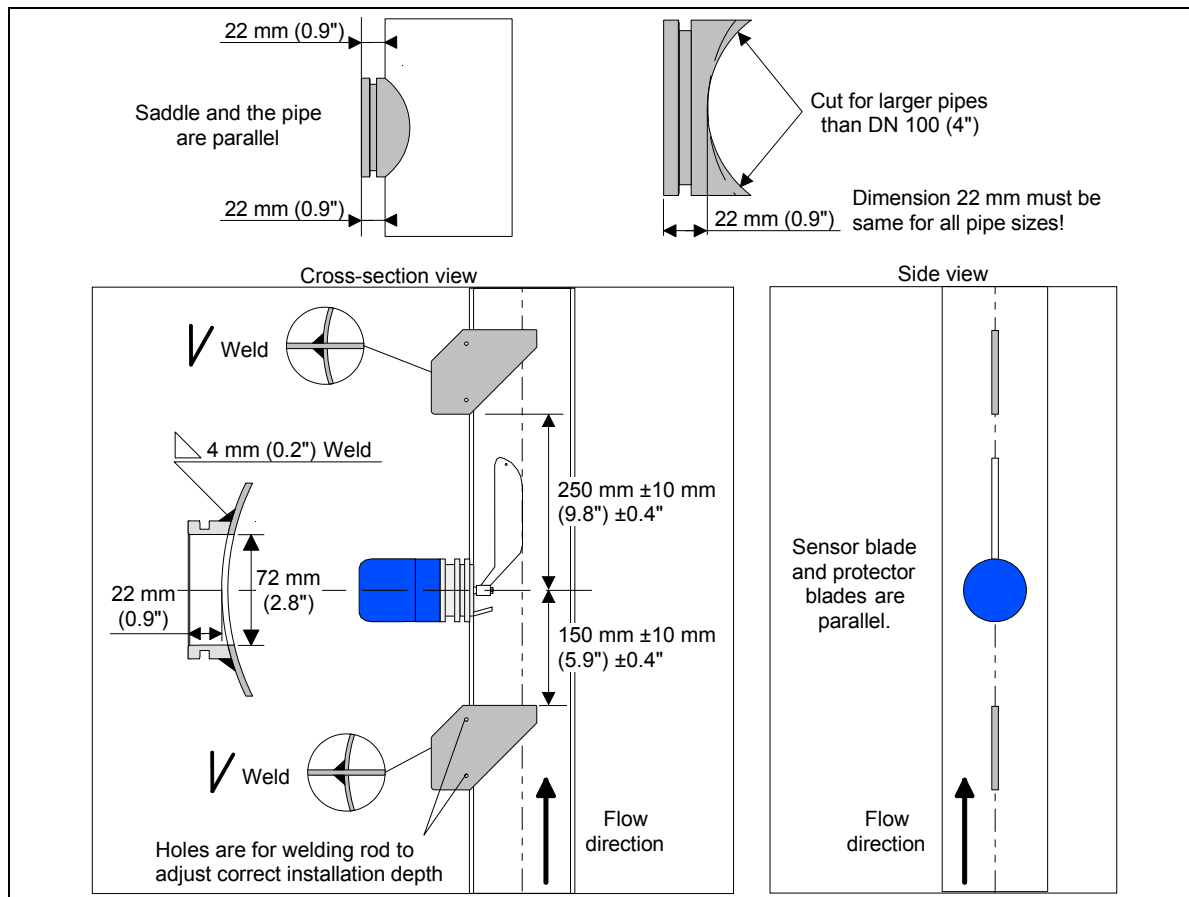

Figure 2.4. Standard blade ST installation. Mounting of the saddle and protector blades.
2. Cut a hole $\text{Ø}72 \text{ mm}$ (2.8") in the pipe as shown in figure 2.4. To prevent fiber debris from collecting on the edge of the cut-out, ensure that the edges of the hole inside the pipe are ground smooth. Fiber and or debris collected at this point can interfere the measurement.
Blade transmitters need protector blades (included in delivery) before and after the sensor blade. This is necessary because during shut downs pulp may dry out and dry fiber plugs may form. When the pump is re-started damage to the sensor unit may occur when these plugs start moving in the line. The protector blades protects the sensor unit from mechanical damage from up or downstream flows that come from dewatered pulp, knots and other stream projectiles hitting the blade. The installation of the protector blades are shown in figure 2.4.